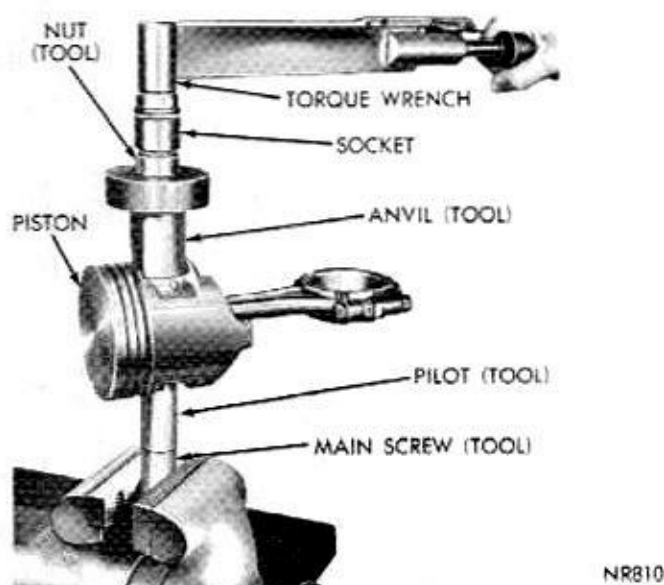

Fig. 38—Testing Fit of Piston Pin in Connecting Rod
(12) Place assembly in a vise (Fig. 38).
(13) Attach torque wrench to nut and test torque up to 15 foot-pounds. If connecting rod moves down-